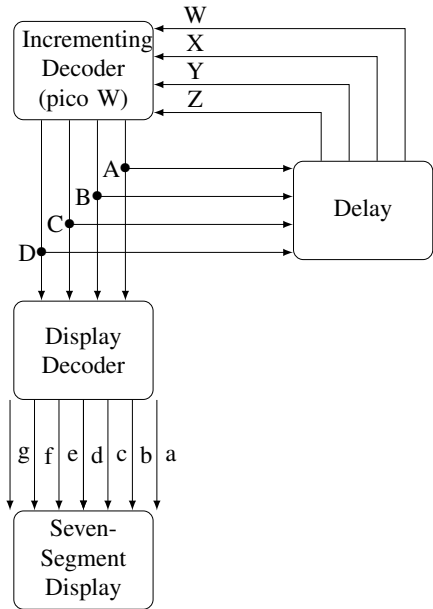

Fig. 1.2
- 2. Connect the pico W, 7447 and the two 7474 ICs according to Table 1.4 and Fig. 1.2.
to realize the decade counter in Fig. 1.2.